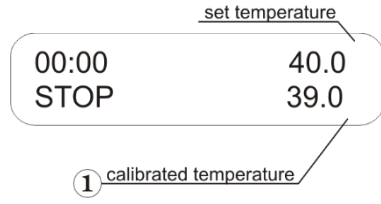

Fig. 4. Control panel in operation mode after calibration
- 5.4.8. The display will show calibrated temperature as shown on fig. 4/1 and the unit will continue thermal stabilization according to the previously set temperature.